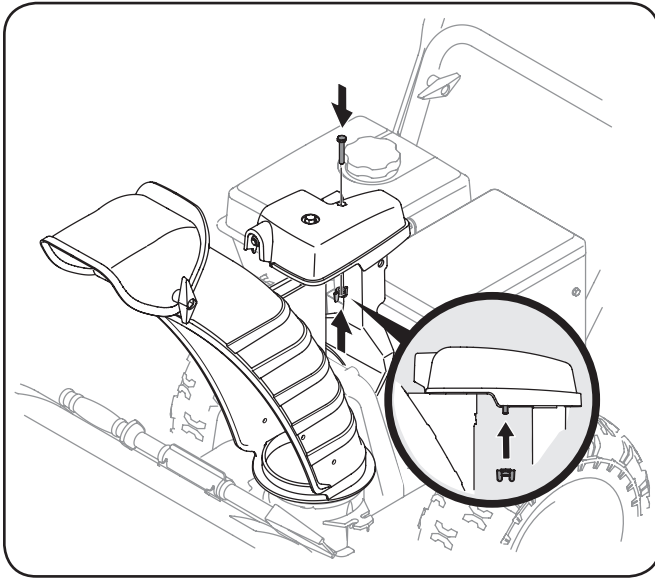

Figure 3-14
3. Finish securing chute control assembly to chute support bracket with wing nut and hex screw removed earlier. See Figure 3-14.